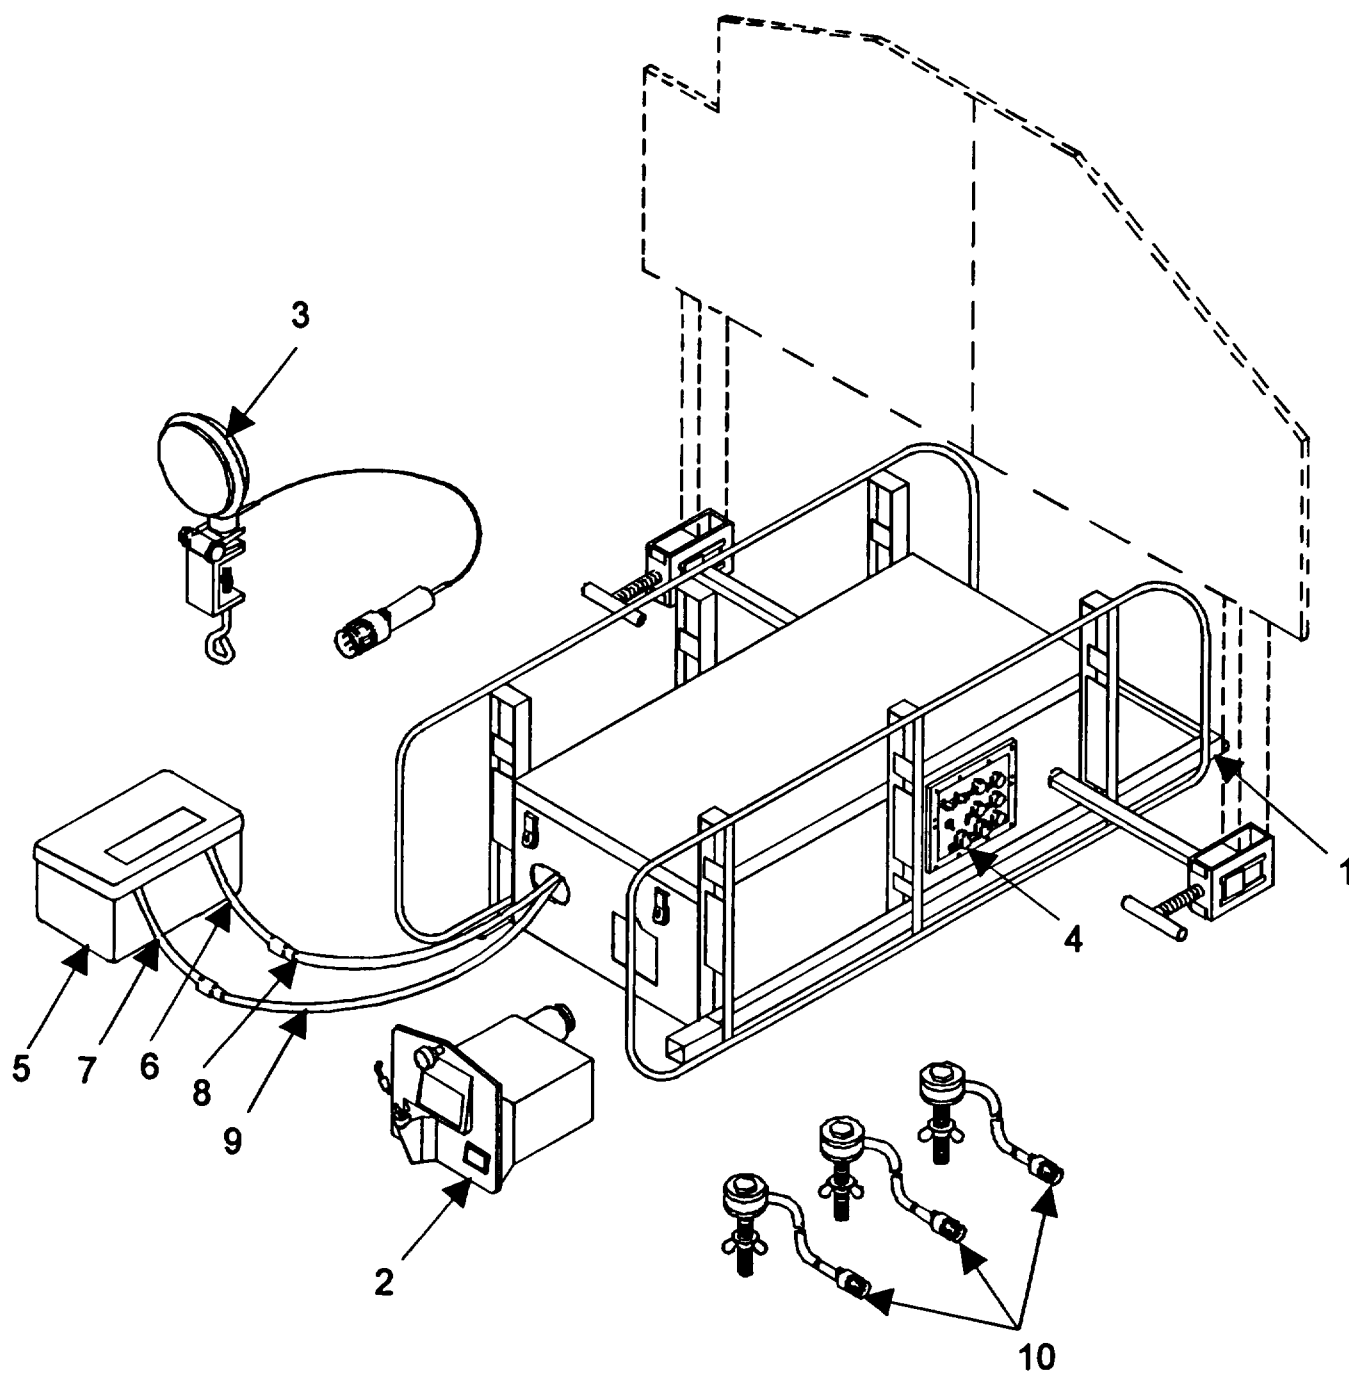

Figure 2-5. Preparation for Use of the Radio-Controlled THM/TG.
a. Assembly and Preparation of Radio-Controlled THMITG. To assemble and prepare the radiocontrolled THM/TG for operation, refer to figure 2-5 and FO-1 and perform the following steps:
- (1) Extend the stabilizer assembly (1).